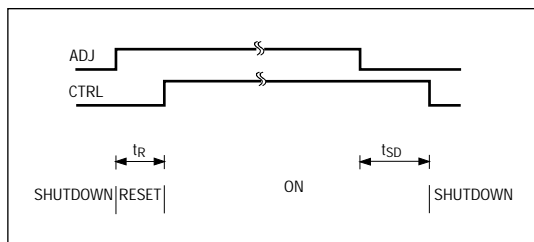
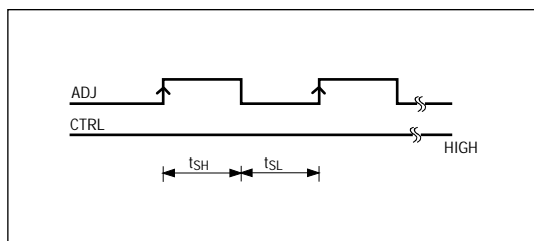
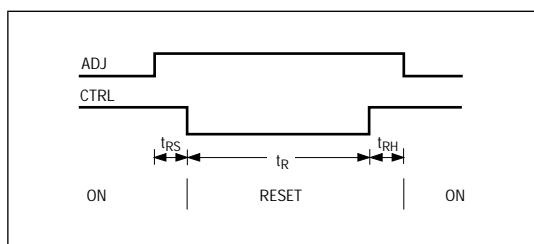

Figure 3. Shutdown-Reset-On-Shutdown Sequence of Operation. The device is not shut down during reset.
Figure 4. Count-Up Operation
Figure 5. Reset Sequence without Shutdown. The device is not shut down during reset.
**Note 1:** The device is in regulation when VFB = 0V (see Figures 3 - 6).
In Figure 3, the MAX749 is reset when it is taken out of shutdown, which sets the output at mid-scale. Figure 4 shows how to increment the counter. Figure 5 illustrates a reset without shutting the device down.